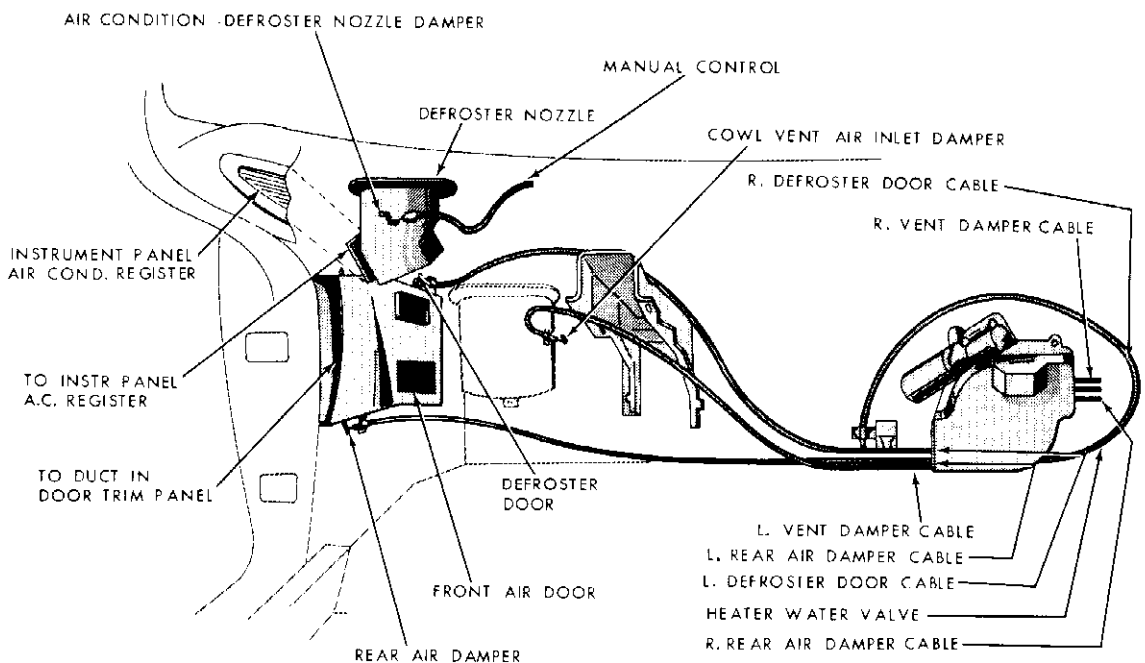

Fig. 3-20—Air Duct and Damper Identification—(9L-8804)
- c. If the motor runs, carefully inspect all Bowden cables for any condition which could cause a bind (rust, corrosion, kinks, or improper cable routing resulting in bends of too small a radius). Check each damper door and the air conditioner control unit for freedom of operation. (See figure 3-20.)